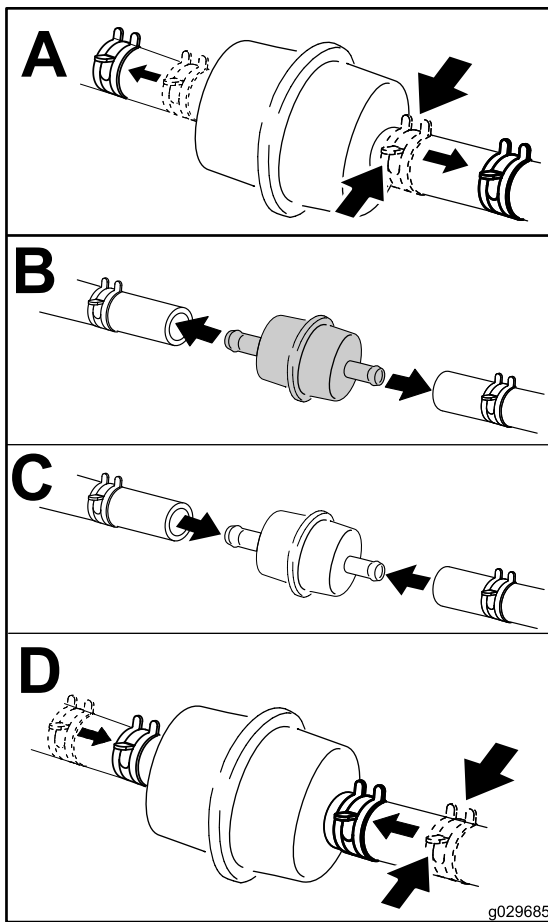

Figure 66
4. Replace the fuel filter (Figure 66).